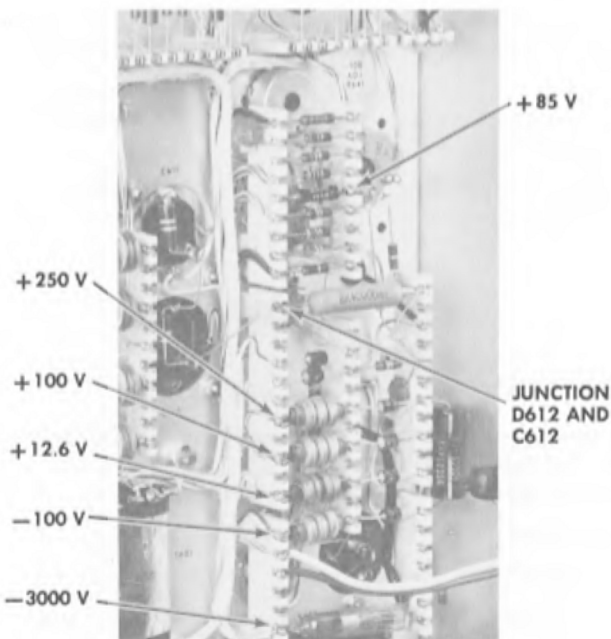

Fig. 6-1. Location of Power Supply test points.
To check the secondary circuit of T601, measure the voltage at the junction of D612 and C612 (Fig. 6-1). This voltage should be approximately +500 volts. Check the secondary winding of T601 and the voltage doubler circuit if the voltage is not correct. A reading of approximately 600 volts or more at the junction of D612 and C612 indi-
**1. —100 ADJ.** With the dc voltmeter measure the output voltage of the —100-, +12.6-, +100-, +85-, +250-, and —3000-volt supplies at the points indicated in Fig. 6-1. Set the —100 ADJ. control so that the —100-volt supply is within 2% and the other supplies within 5% of their rated values.